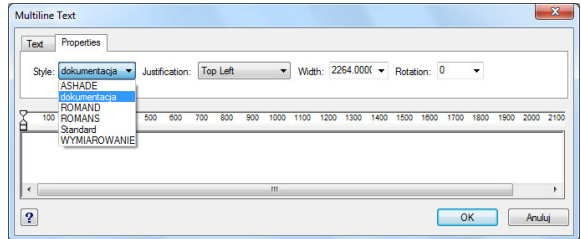

Fig. 54 - Multiline Text dialog box – Properties tab
- Set the type and the size of the font and other formatting parameters (e.g. bold – in the **Properties** tab (Fig. 54);